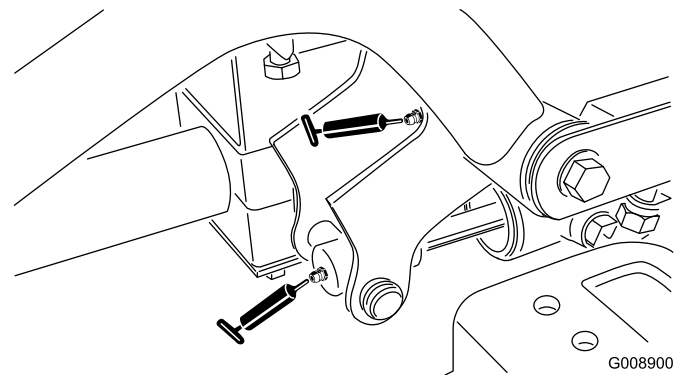

Figure 65
- Right front lift arm pivot and lift cylinder (2 fittings—Figure 65)